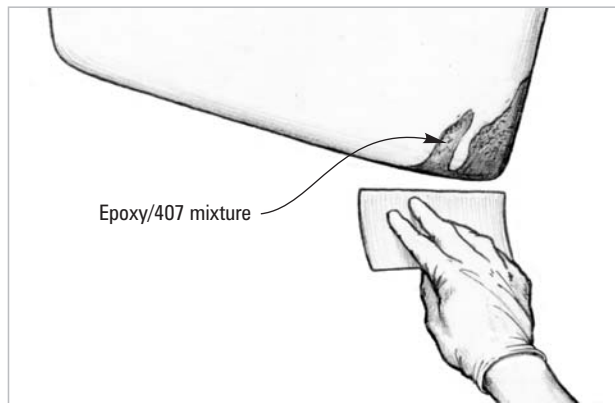

Figure 8-4 Trowel the epoxy/407 mixture into the voids and shape it to match the form of the keel.
6. Fill the voids with an epoxy/407 low-density filler mixture thickened to a peanut butter consistency. Trowel the mixture into the voids and shape it to match the form of the keel (*Figure 8-4*). If the volume of a void is larger than a golf ball, apply the mixture in several applications to avoid excessive exothermic heat buildup. Allow the mixture to cure thoroughly.